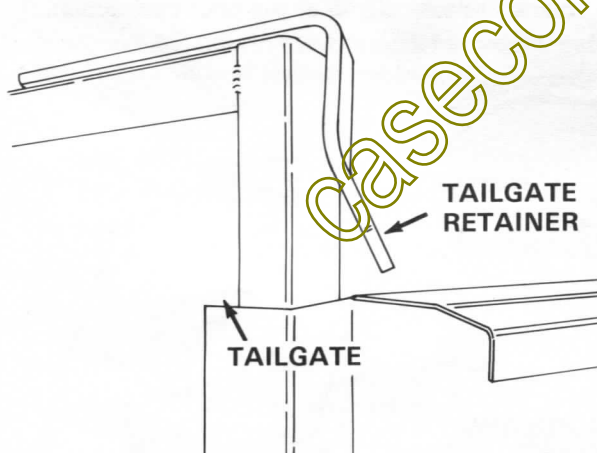

FIGURE 13
3. Insert the rear tail gate as shown in Figure 13. Push the tail gate fully down until the retainers engage the side panels. This will align the sides.